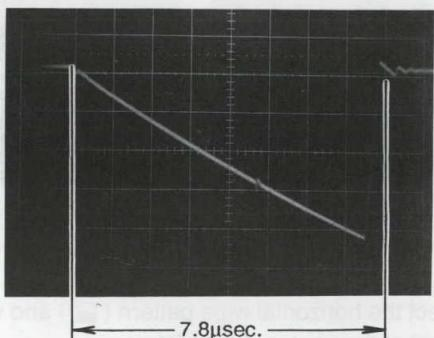

Fig. 4-11
- Adjust VR14 to obtain the pulse width of $7.8 \pm 0.1 \mu\text{sec}$. as shown in the Fig. 4-11.